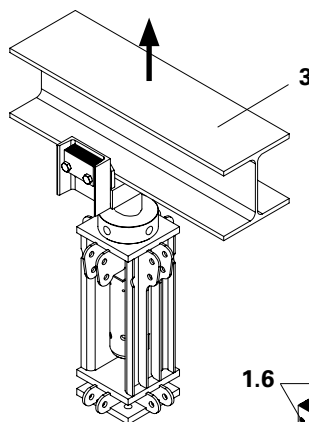

Fig. 30
1. Remove crossbeam (3). (Fig. 30)